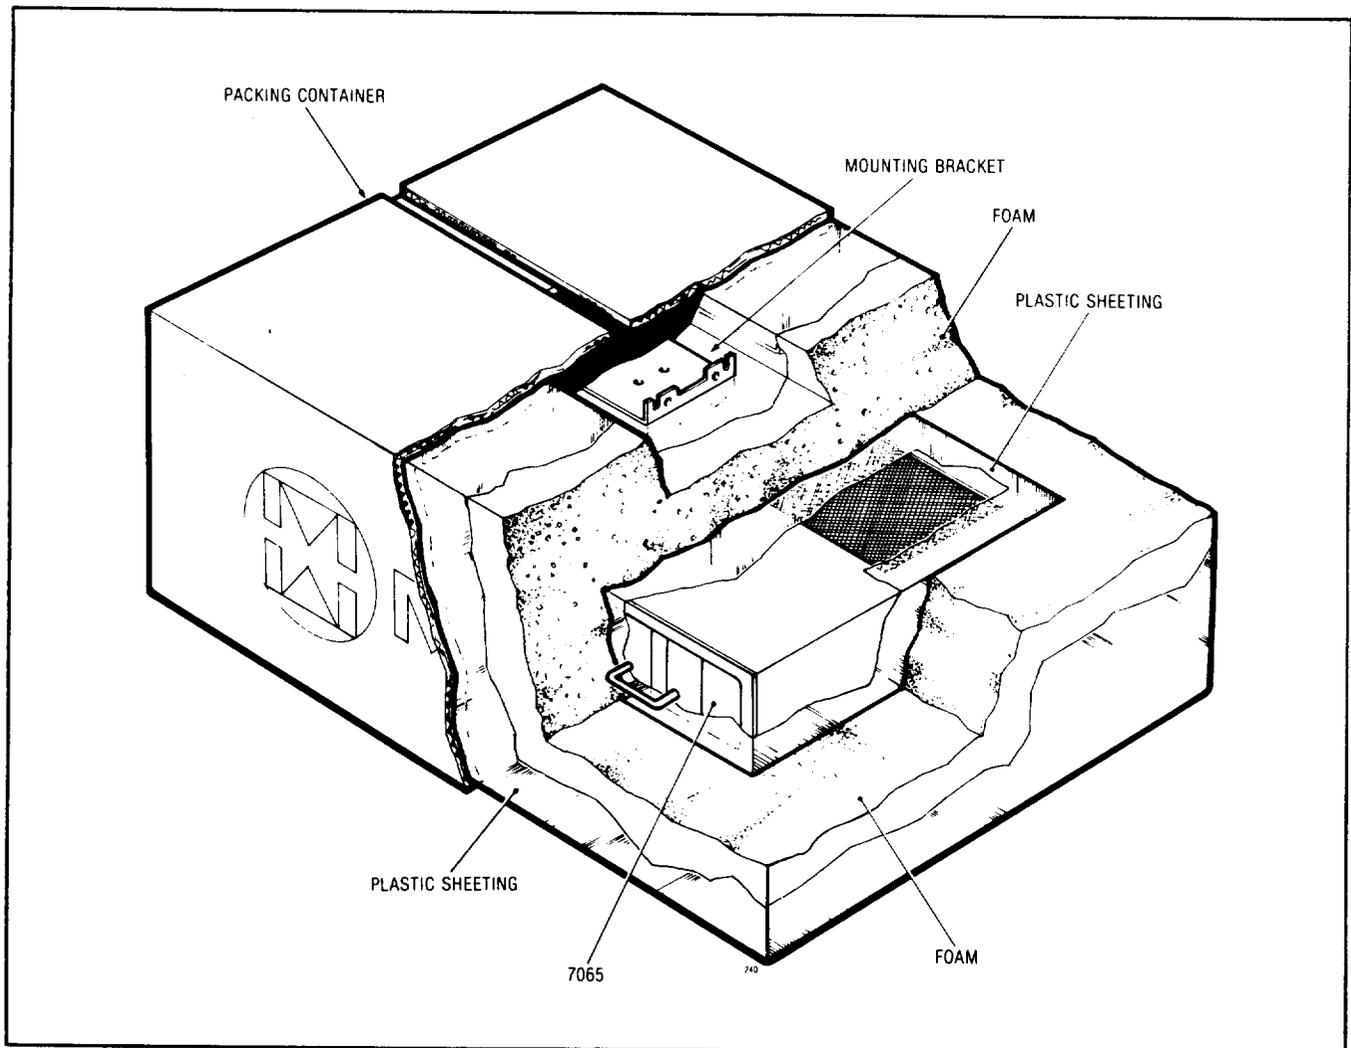
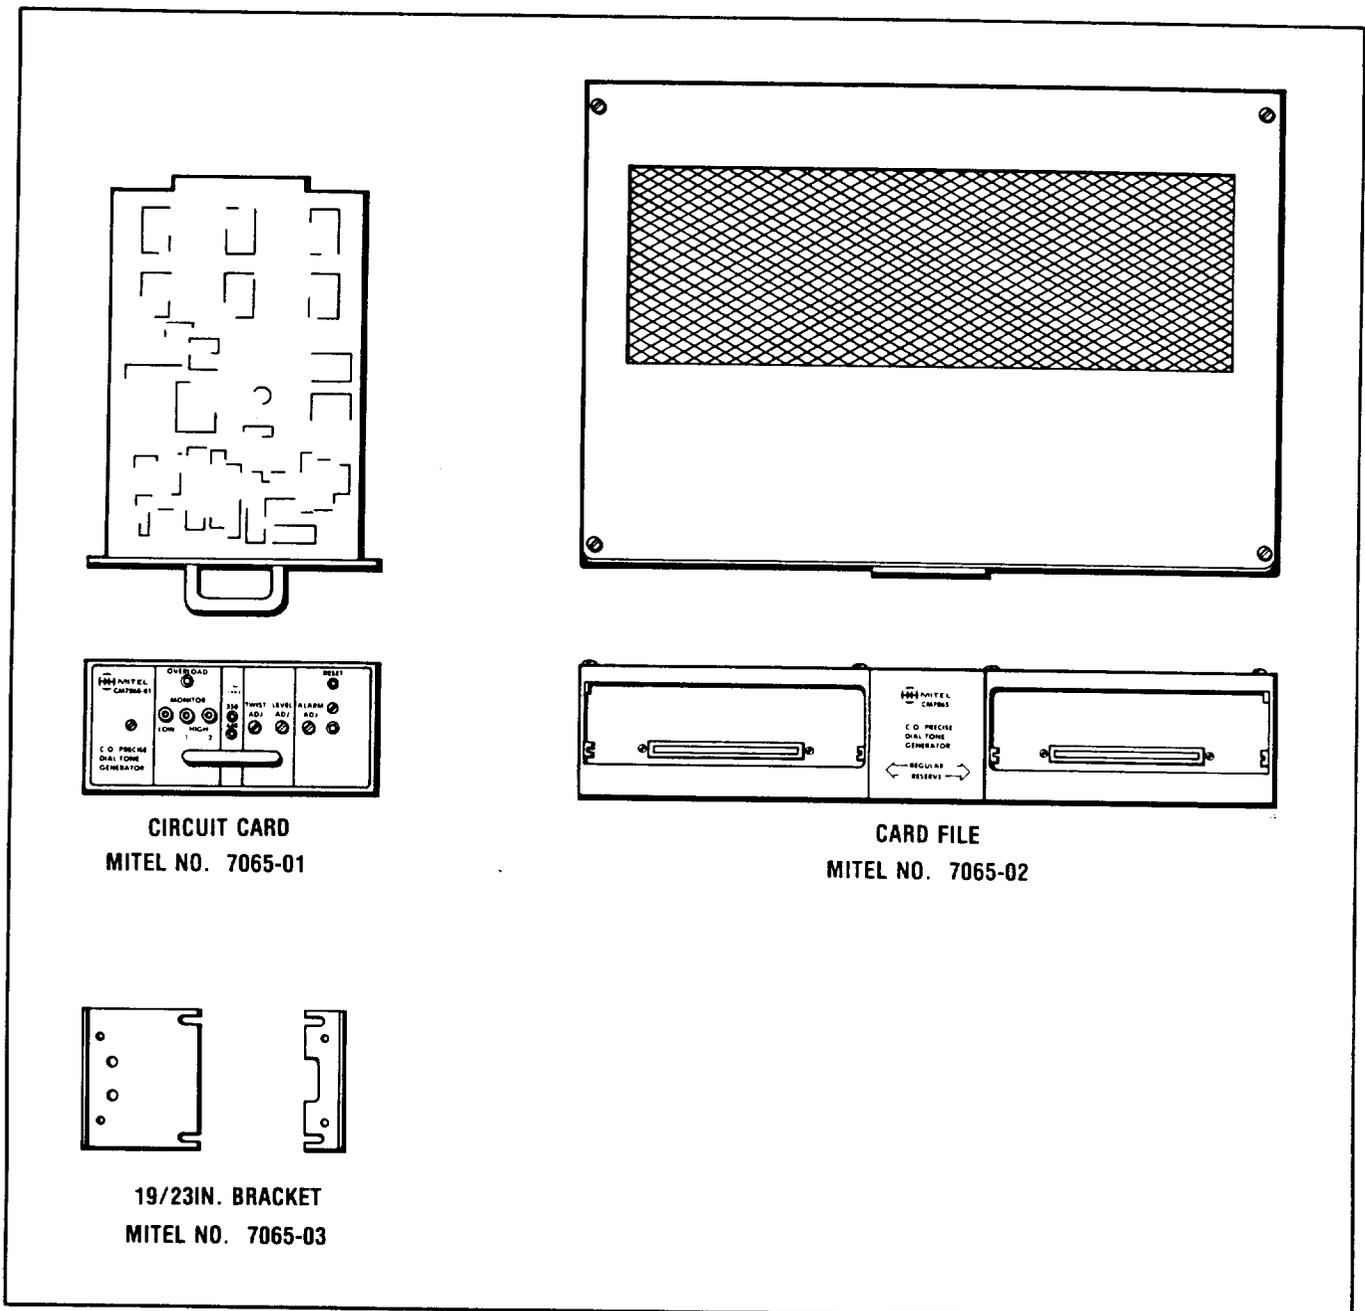

Fig. 1 CM7065 Packing
Fig. 2 Part Identification
2.01 Unpack all materials. Verify that the type and quantities received are correct according to the shipping list. The normal packing and shipping arrangement for a CM7065 is shown in Fig. 1. The rack mounting bracket hardware is located in a cutout in the upper foam packing piece. Parts are identified in Fig. 2.